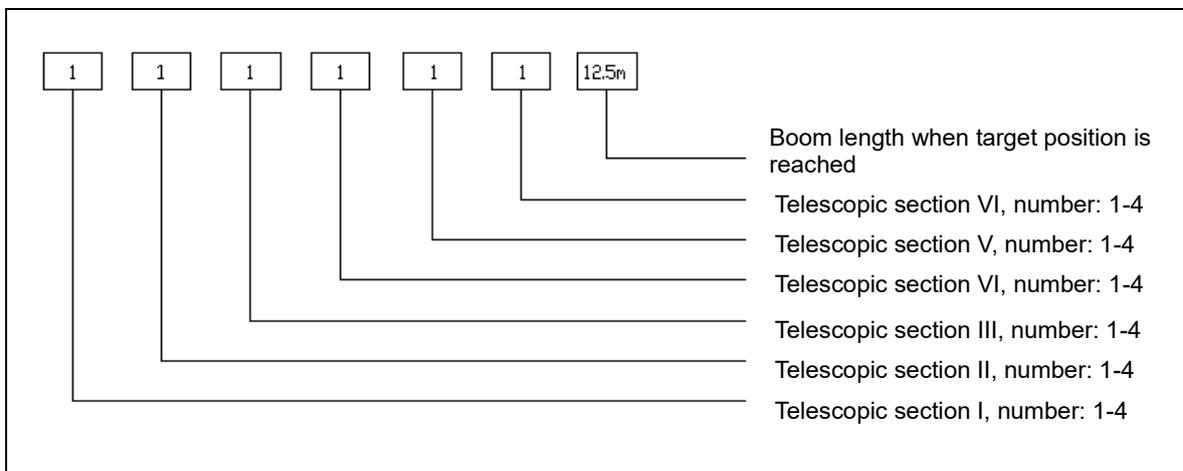
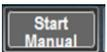

Figure 4-34 Boom combination
Figure 4-41 Boom status during manual telescoping
Boom combination illustration (Refer to Figure 4-34):
- e) Press function key F2 in Figure 4-34 to switch to Figure 4-41.
In Figure 4-41, if the above prerequisites are met, "Start manual" will be highlighted in green.